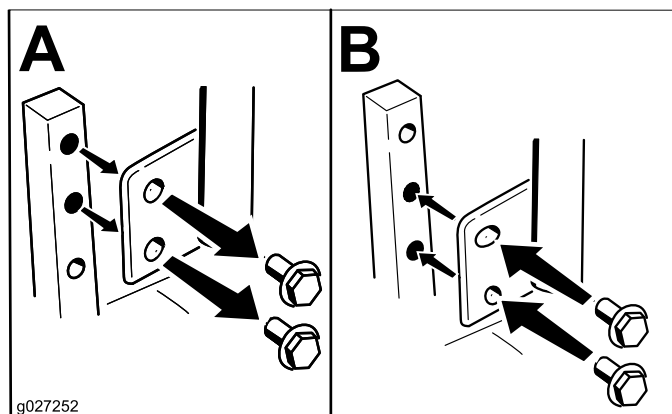

Figure 23
The motion-control levers can be adjusted higher or lower for maximum operator comfort (Figure 23).
2. Loosen the lower bolt just enough to pivot the control lever fore or aft (Figure 23). Tighten both bolts to secure the control in the new position.